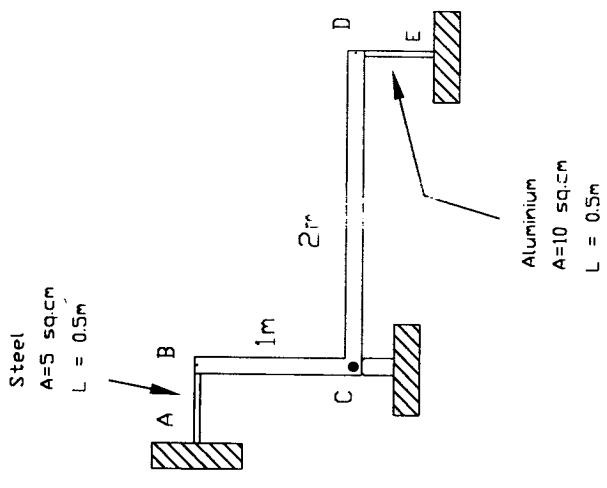

Fig 6
6. In the structure shown (*Fig 6*) the L-shaped rigid member BCD is supported by Steel rod AB and Aluminum member DE, and pinned at point C. Member DE has a cross sectional area of 10 cm² and member AB has a cross sectional area of 5 cm². The structure is initially unstressed and then experiences a temperature decrease of 60 degrees Fahrenheit.